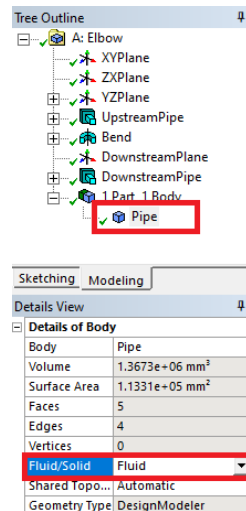

Figure 20: Renaming the solid as *pipe* and set it as a *fluid domain*.
- In the *Modeling* tree on the left, click on *1 Part 1 Body*, and rename the corresponding solid as *pipe*, as shown in figure 20. Finally, it is useful to set - or check - that, clicking on the *pipe* in the tree Outline, it is set as *fluid* in the *Details View* below, as also illustrated in figure 20.